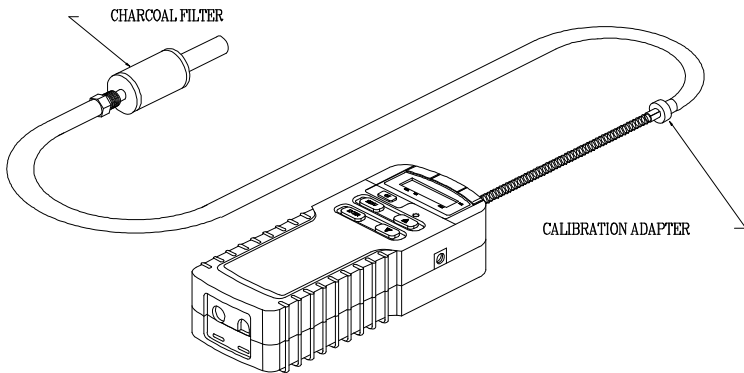

Figure 4.1 Zero Gas Calibration Setup
The organic vapor zeroing kit, see Figure 4.1, is supplied to perform zero gas calibration. This kit consists of:
2. Insert the zero gas adapter into the gas inlet tube of the Personal PID Unit, as shown in Fig. 4.1. Alternatively, move the instrument to a location that is known to be free of organic contaminants in the ambient fresh air.